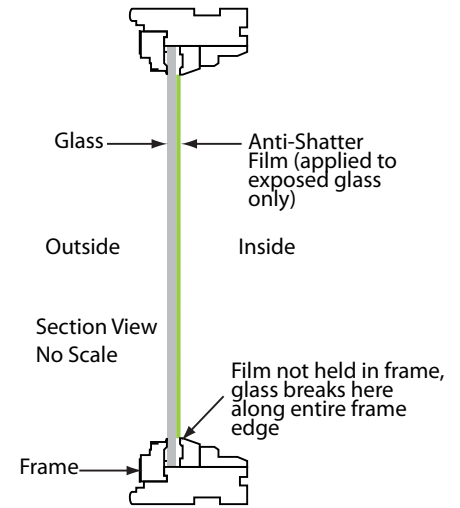

Figure 1: Daylight-applied FRF.
*Daylight-Applied FRF* – The simplest, least intrusive and least expensive way to reduce the fragment hazard from glazing is to apply FRF only to the exposed interior surface of the glass (Figure 1). A thickness of 4 to 7 mils is usually